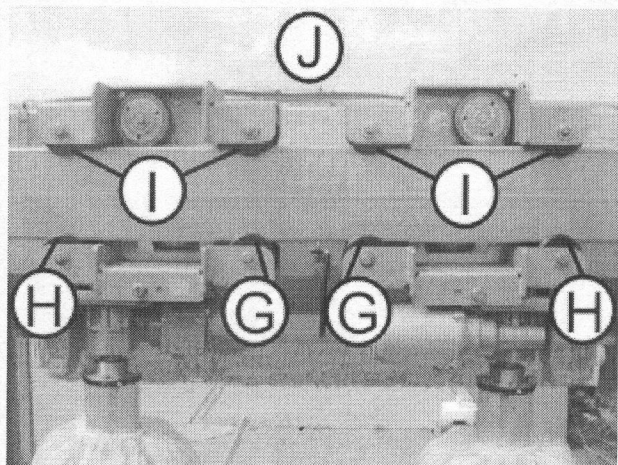

Fig. 031
6. Adjust the cams of the running rollers (H) so tight that the running rollers can be turned only by hand. Then tighten the roller axle screws of the running rollers (H) (Fig. 031).
7. Adjust the top running rollers (I) with the cams in such a way that there is a gap of approx. 2 mm between the side brush holder (J) and the running roller. Then tighten the roller axle screws of the running rollers (I) (Fig. 031).